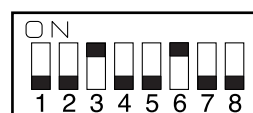

Figure 5-168
- 1) Remove the ADF cover, and set the DIP switch (SW1) on the ADF controller PCB as indicated in Figure 5-168.